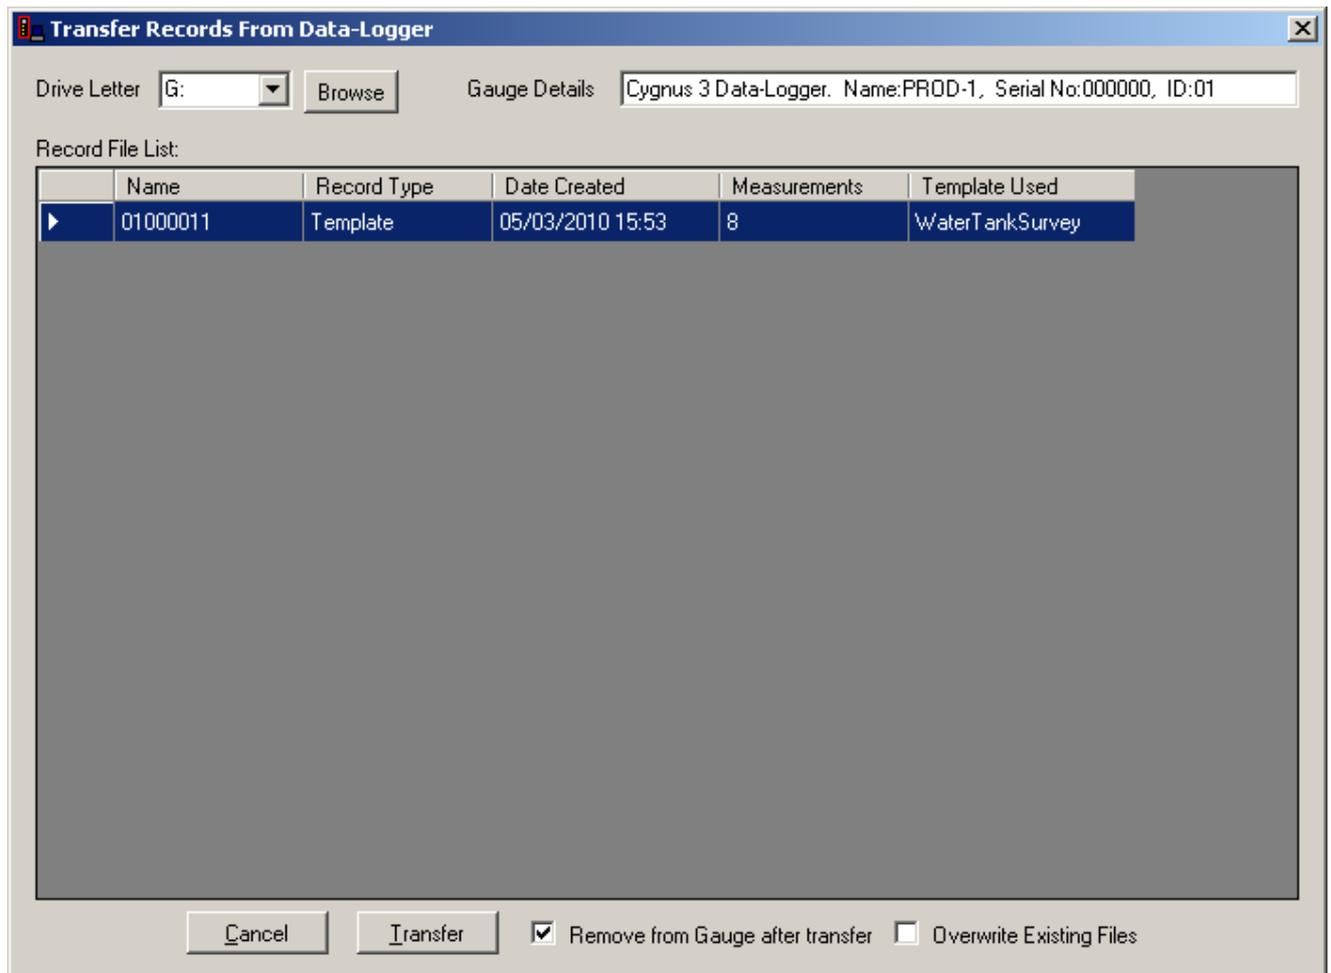

Fig. 11.12. Transfer Records from Data Logger.
4. You should see the **Transfer Records from Data-Logger** dialog, fig. 11.12.
5. Select the "01000011" Record by clicking on its grey row selector on the left of the row, see fig. 11.12. We can see this Record has been created today using the "WaterTankSurvey" template.